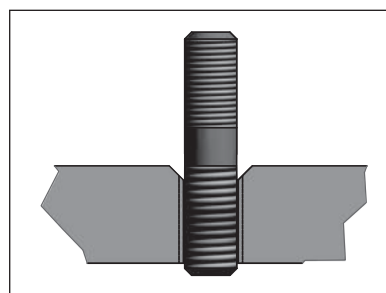

Figure 75
**CAUTION:** Over tightening of the studs or running the shoulder past the transmission mounting surface may damage stud and/or transmission threads (**Fig. 75**).